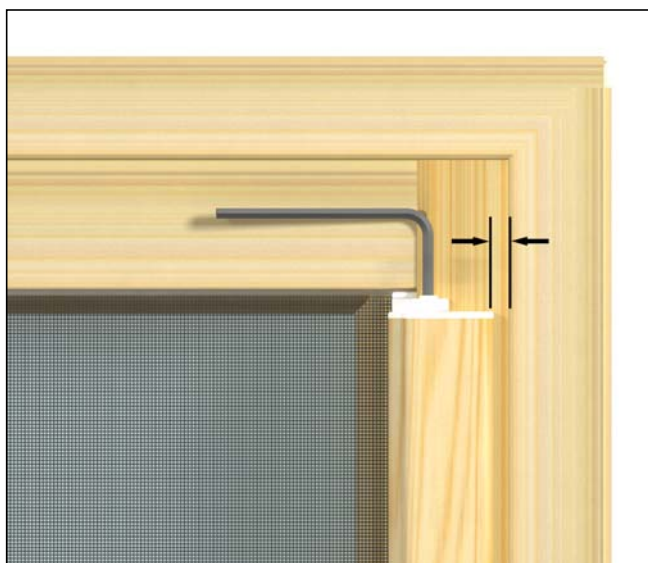

Figure 35
1. The glide block is pre-set at the factory but if, after unit installation, the space between the pull bar and the jamb is uneven, a $7/64$ " Allen wrench can be used to loosen the screw so the pull bar can be moved to give uniform spacing and then re-tightened. See figure 35.